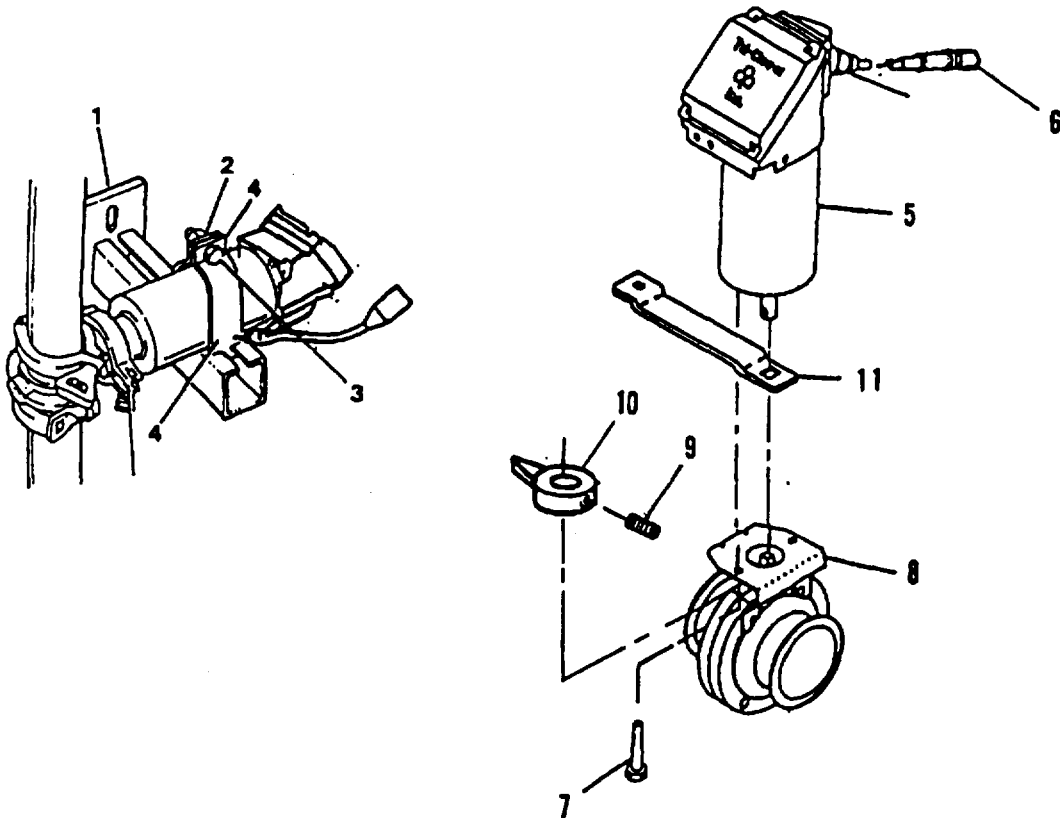

Figure 2-76.1. Setting of Automatic Valves for Manual Operation.
- (d) The actual valve position can be determined by looking at the position indicator (10) in the actuator mounting bracket.
- (2) Set automatic valve for manual operation (Refer to Figure 2-76.1).
- (b) If the valve actuator (5) is supported by a bracket (1), loosen the nut (2) and bolt (3). Do not remove the support halves (4). Close the appropriate air valve. Disconnect the electrical connector.